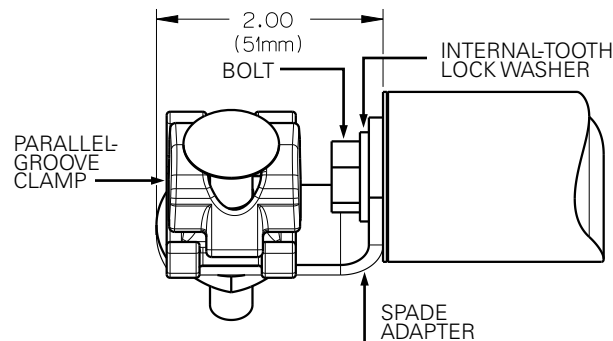

Figure 17. Parallel-groove terminal (#8 through 2/0 cable sizes). (-Q)
2. Place the internal-tooth lock washer onto the bolt and insert the bolt through the spade adapter hole into the tapped center hole of the fuse and torque the bolt to 10-15 ft-lbs. (Figure 17.)
3. Attach parallel groove connector (in a bag) onto spade adapter as shown in Figure 17.